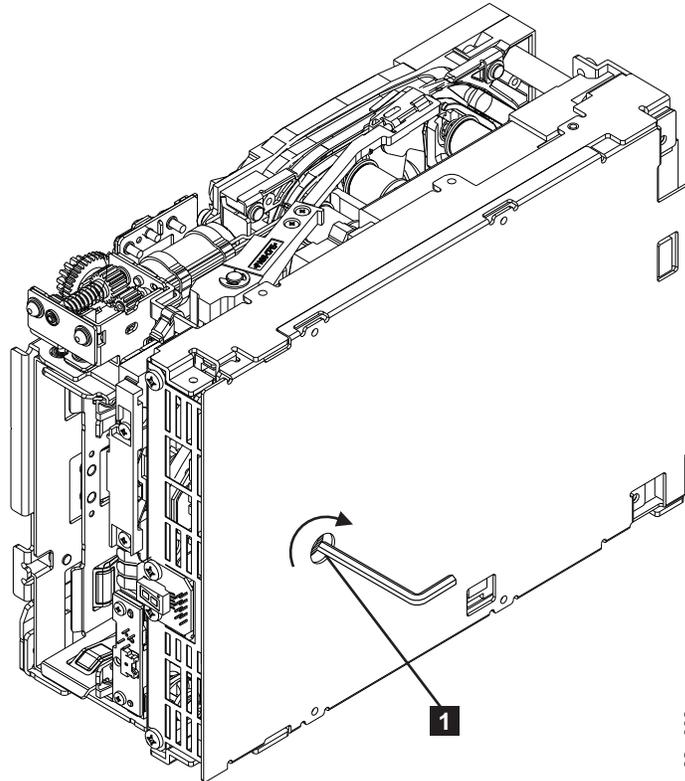

Figure A-7. The hex wrench rewinds tape into cartridge
**Note:** Be sure to keep tension on the tape as the LBA is drawn into the cartridge by using a hex wrench as shown in Figure A-7 on page A-8.